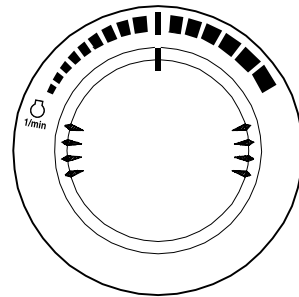

Figure 20
2. Run engine for approximately five minutes set at the middle of the speed range, without a load (Figure 20).